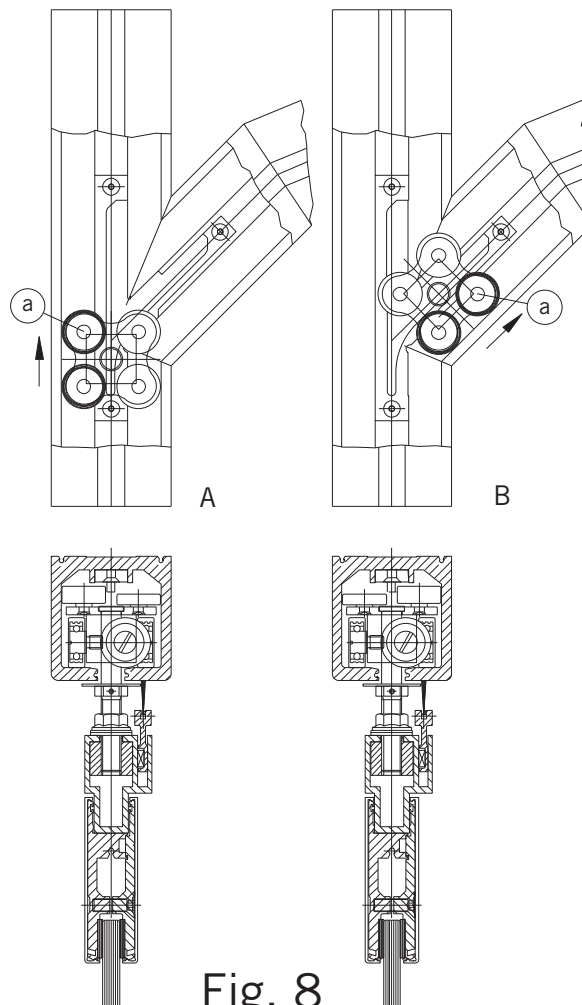

Fig. 8
8. Track roller arrangement (Fig. 8):